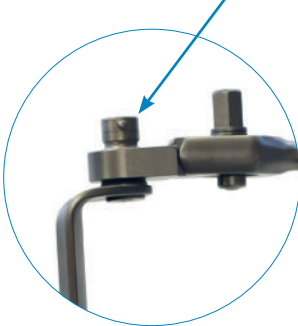

Figure 11
- To obtain a fixed connection, align the second pin with the groove, and push the blade upward. When the second pin is engaged in the blade holder, the retractor blade will remain fixed (Figure 11).